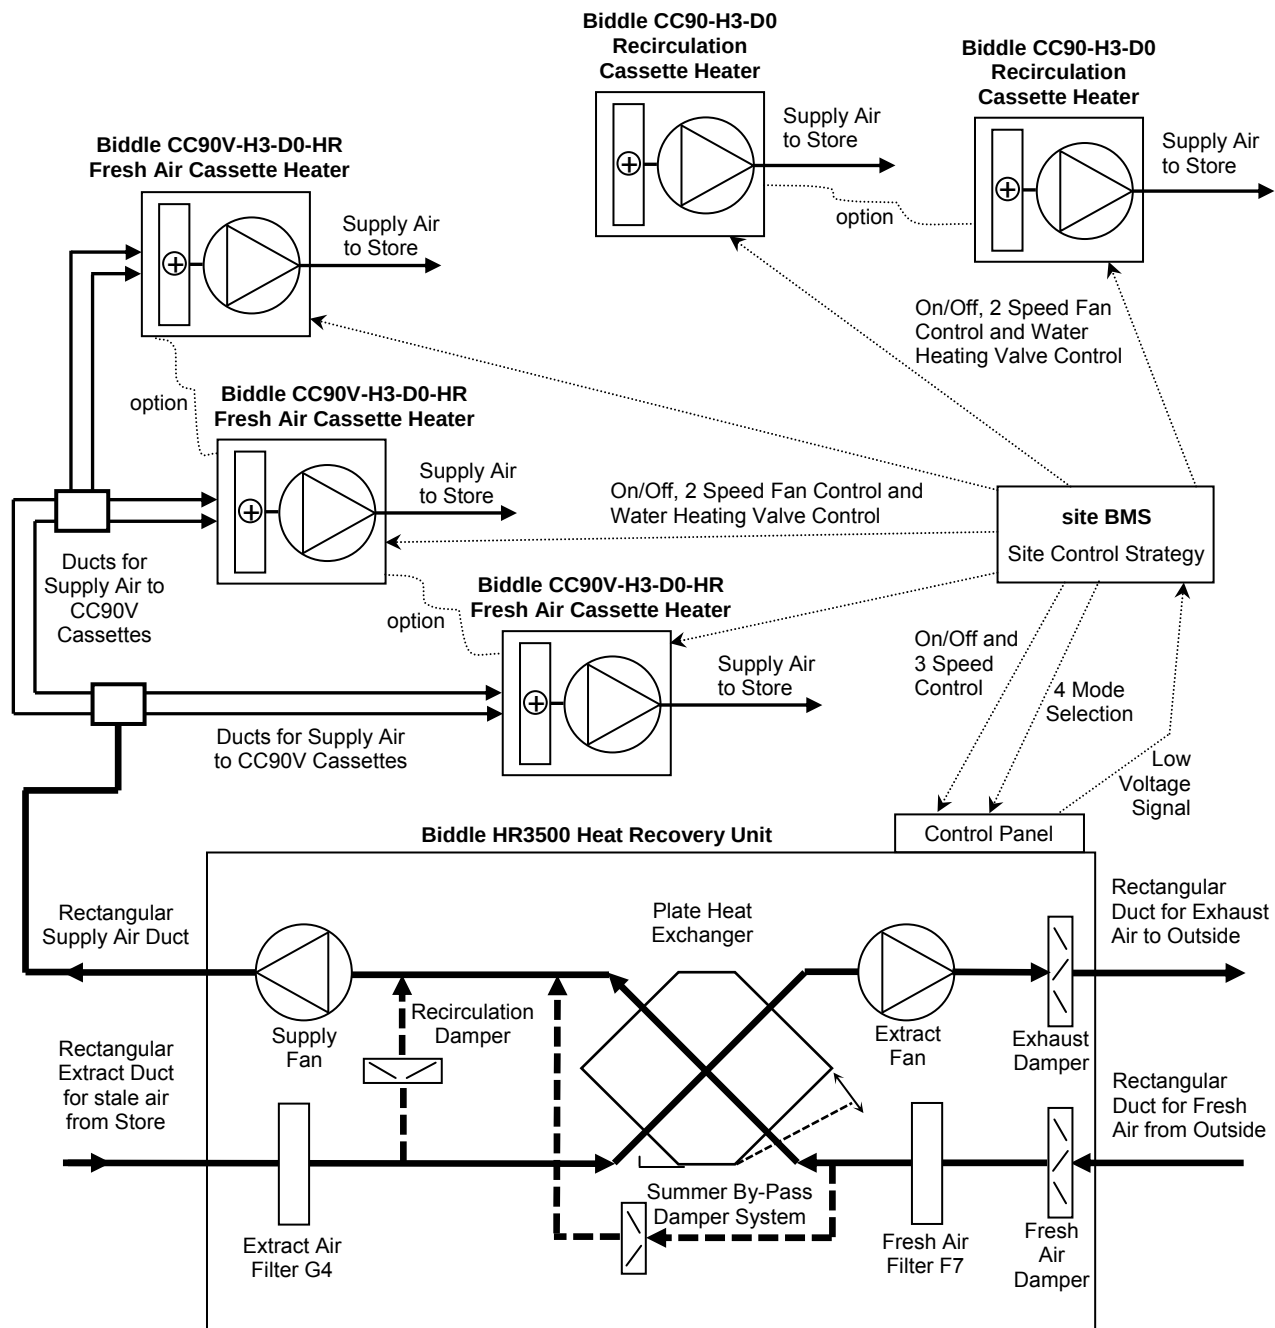

Figure 2
2. Biddle CC90V-H3-D0-HR Cassette Heaters in stores where Biddle CC unit heaters are used for heating the store. See Figure 2.